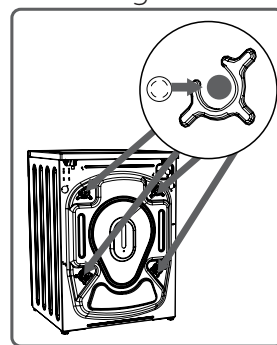

Fig 4
- 3:** When the transport bolts have been removed, insert the plastic hole plugs found in the accessories bag into the holes. (Fig 4)